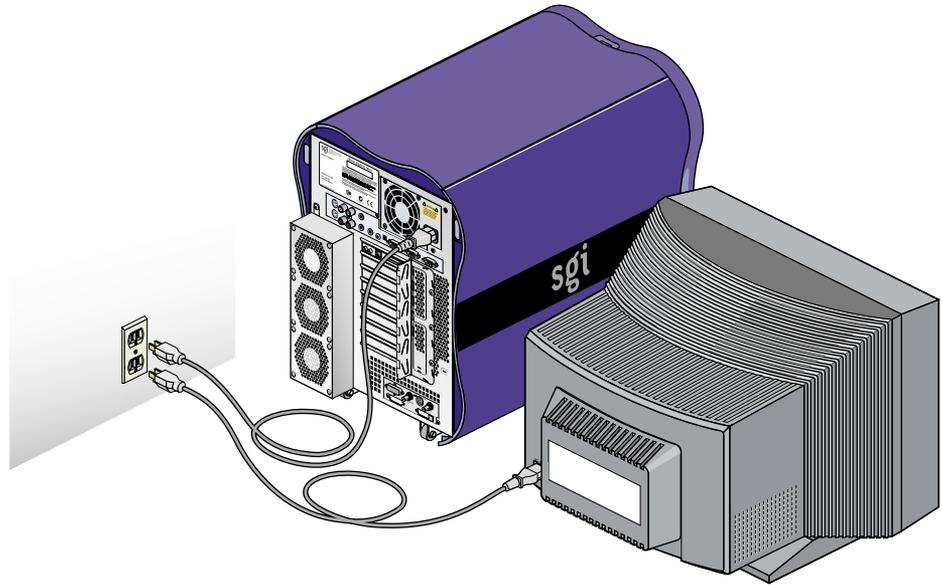

Figure 1-8 Connecting the Workstation and Monitor Power Cables
4. Connect the power cables to your workstation and monitor. Then plug them into approved electrical outlets (see Figure 1-8).